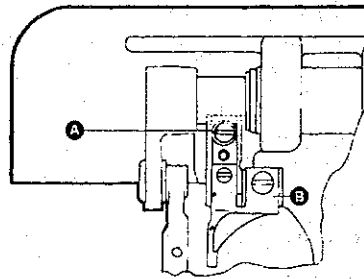

Fig. 24
Remove the hook positioner and then set it with screw (A) shown in Fig 24 (B)-fixed knife support assembly.
(1) The standard position is shown in figure 24. If the size is larger than the standard, the knife will either cut the 3 threads or draw the thread out of the needle eye; if smaller, it will cause damage, so be sure to avoid that. If any of the above mentioned situations occur, adjust by setting the fixed knife support or the fixed knife (B).